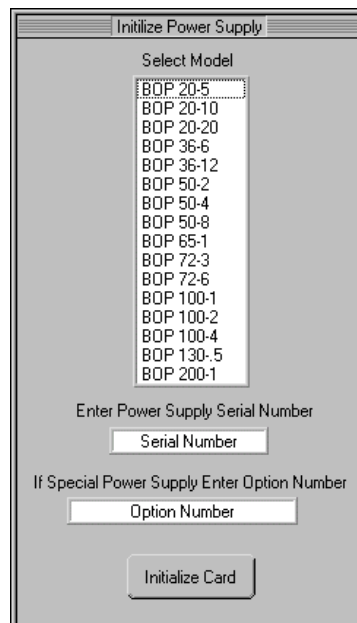

FIGURE 2-4. BIT 802E CARD INITIALIZATION USING VISA DRIVER
7. Refer to Figure 2-4 and enter the following information:
NOTE: If window shown in Figure 2-4 does not appear, the BIT 802E card has already been initialized. If the BOP model does not match the unit found in step 3 above, contact Kepco Customer Support for instructions.